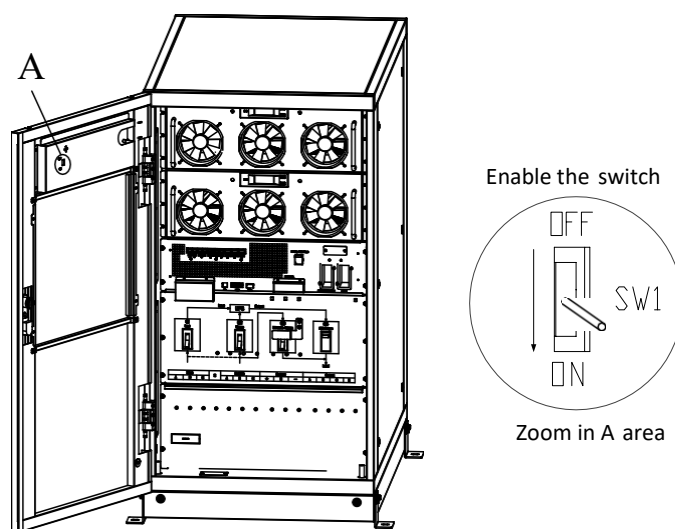

Figure 4-2 Enable the switch
- 2) Press and hold the BYP key on the operator control panel for longer than two seconds and the system transfers to bypass mode. This needs to enable the switch behind the front door. As shown in Figure 4-2.